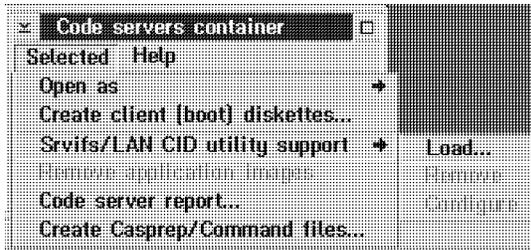
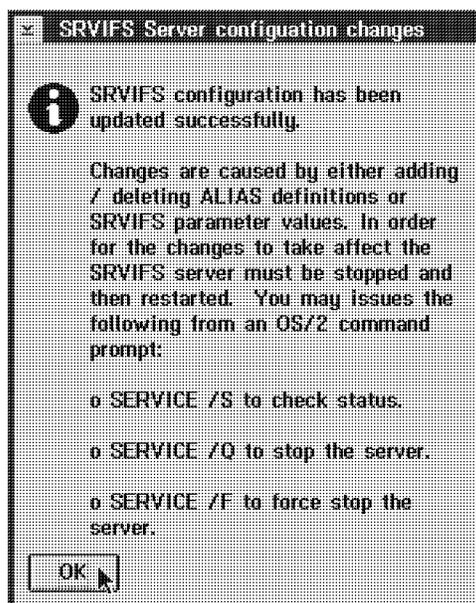

Figure 105. Code Servers Container Selected Menu
Figure 109. Updating CASSETUP.STR
Note: If you want to change a parameter in CASSETUP.STR after the SRVIFS/LAN CID utility support was installed, you need to select **Configure** from the Selected pull-down menu (see Figure 105 on page 162). This will update SERVICE.INI accordingly. At the conclusion, you will get a message such as the one shown in Figure 109.
- b. Pull down the **Selected** menu (see Figure 105 on page 162).